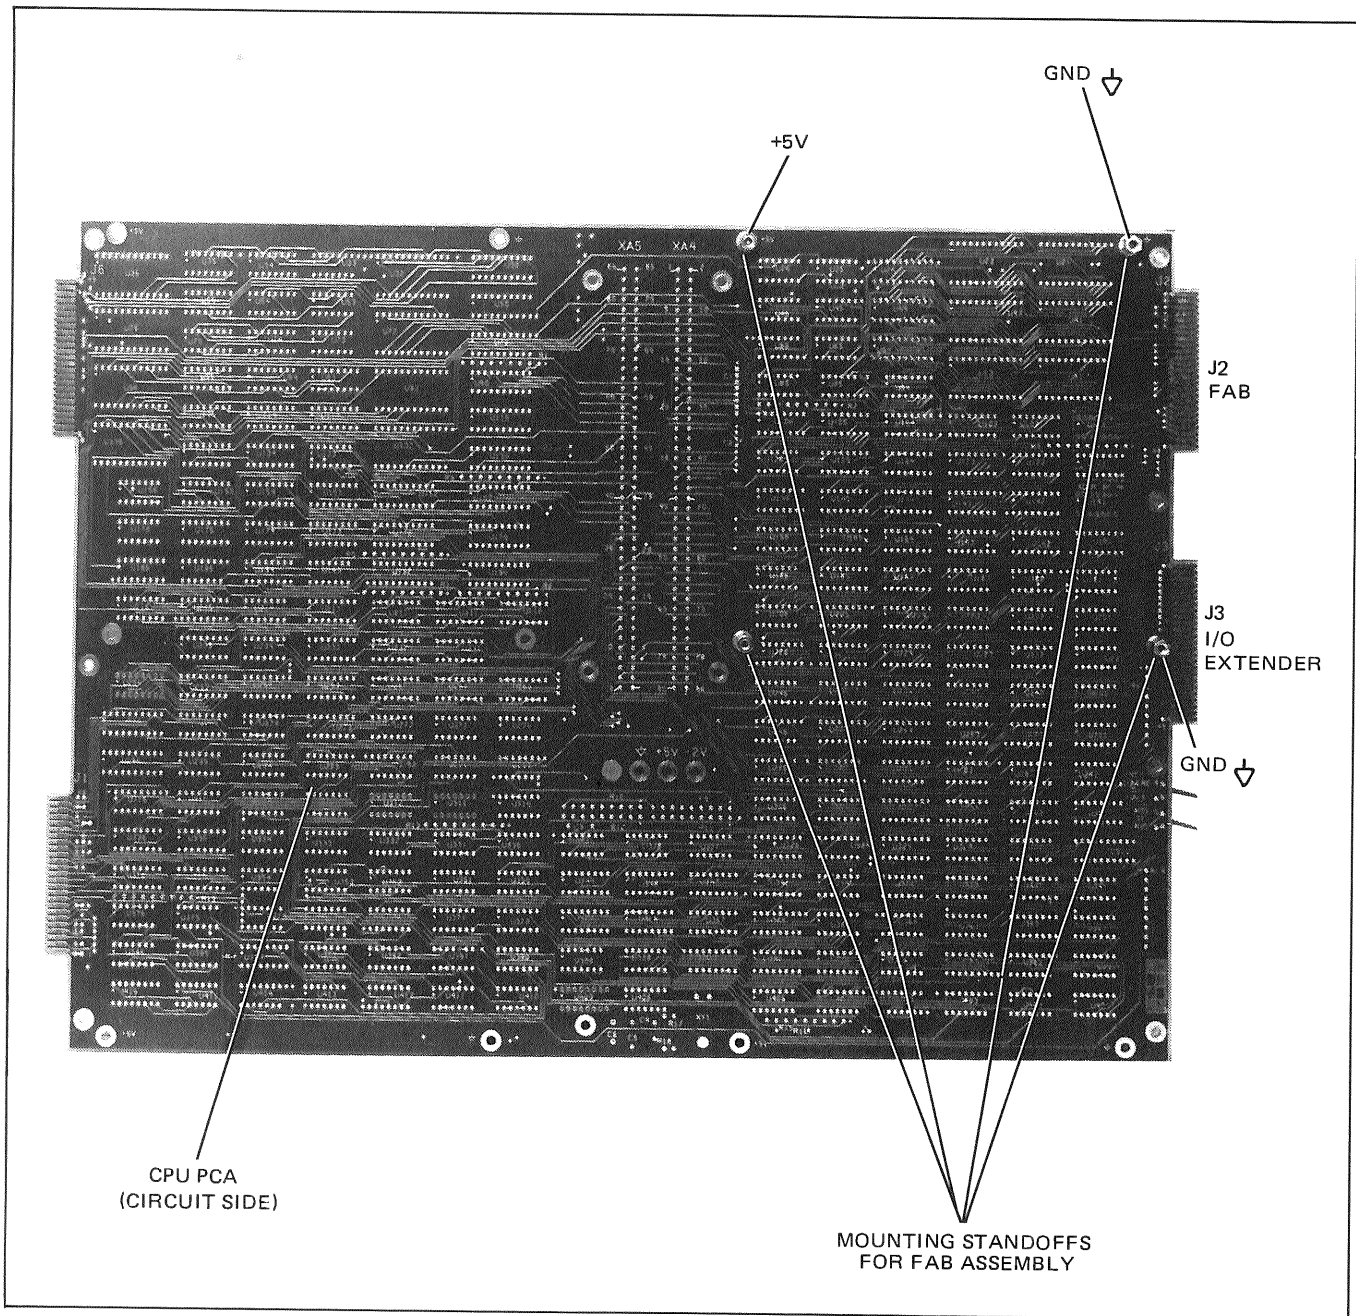

Figure 1-3. Firmware Accessory Board Mounting Details
- g. Position FAB assembly over the CPU PCA standoffs and fasten it securely with the four screws and lockwashers. (See figure 1-3.) Note that the FAB assembly obtains its dc power from the CPU PCA standoffs.
- e. Remove the four screws and lockwashers (see figure 1-3) which fasten the FAB to the CPU standoffs.